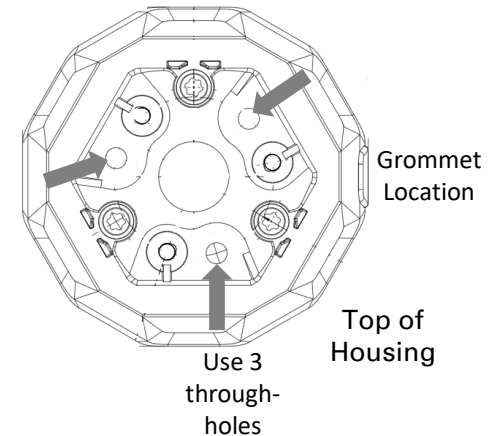

Figure 7
6. Install the grommet. (Fig 7)